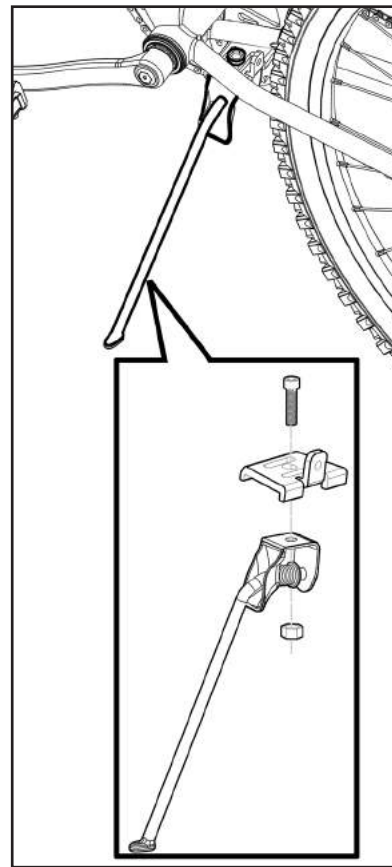

Figure 49
If the kickstand is not mounted to your bicycle, place the bicycle in an upright position against a wall or have someone hold it upright. Place the kickstand in the bracket mounted on the frame and use a pair of (E) Standard Slip Joint Pliers to secure the fixing bolt to keep the kickstand in place. Be sure to tighten the fixing bolt securely. Some kickstands use a top plate to locate the bolt and secure the kickstand using a fixing bolt. Be sure to tighten the axle nut. The guard will sit between the frame and the axle nut (see Figure 49).